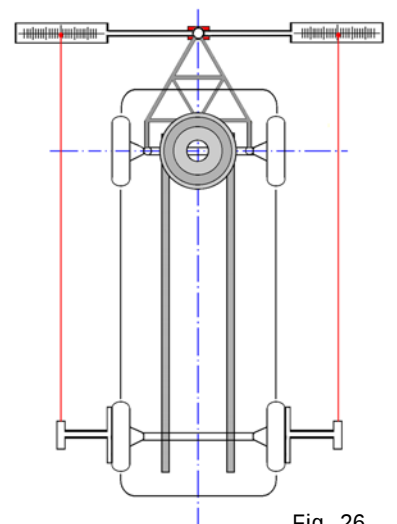

Fig. 26
- Repeat this measuring procedure for all other vehicle axles (Fig. 26).